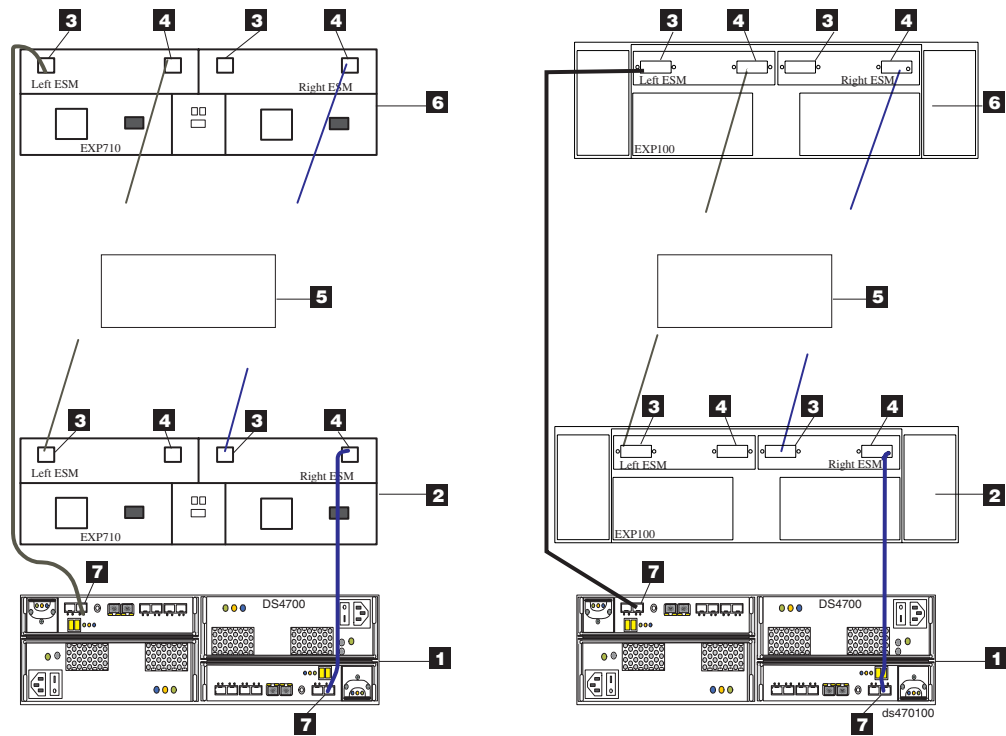

Figure 59. DS4700 Express drive ports connected to 14-drive storage expansion enclosure ESM In and Out ports
- The DS4700 Express drive port must always be connected to the 14-drive storage expansion enclosure's (EXP710 or EXP100) left ESM IN port of the last enclosure in the group of enclosures that are cabled in a redundant drive loop pair. In addition, the DS4700 Express drive port must always be connected to the 14-drive storage expansion enclosure's right ESM OUT port of the first enclosure in the group of enclosures that are cabled in a redundant drive loop pair. Figure 59 on page 79 shows correct cabling to the 14-drive